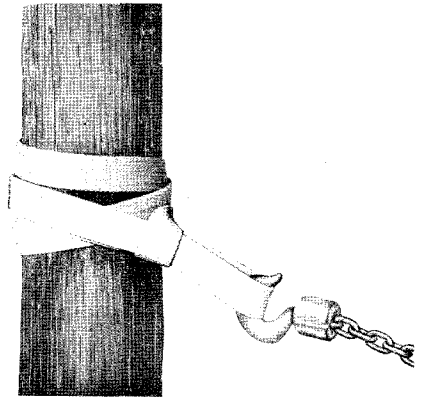

Fig. 2 — C Fabric Sling — Choke Hitch —
2.03 The C Fabric Sling is placed around poles as shown in Fig. 2 and 3. Maximum safe working loads for the sling are given in the figure titles.
- (b) Be sure the hoist hook remains properly placed through the sling (Fig. 2 and 3).